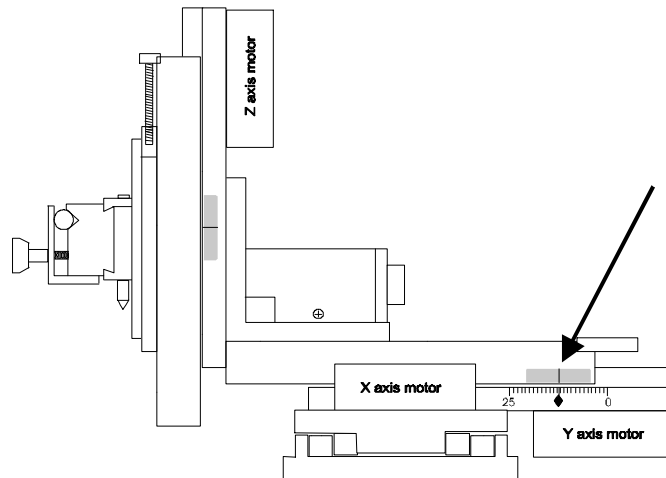

Figure 8-2. Mid-excursion index mark.
- Check to see if the slide is at the endpoint of its excursion. Located on one edge of each axis are index marks to indicate the position of the driven slide relative to the driver. When the center marks of the opposing indexes are aligned with one another, the driven slide is at the middle of its 1-inch (25mm) excursion (see Figure 8-2).
The slide for one axis of the micromanipulator is at its limit of excursion (see Figure 8-2), it won't move in either direction and the display indicates a change in the coordinates for only one of the directions. All other axes work fine.